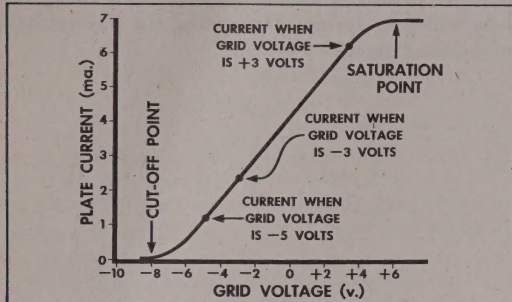
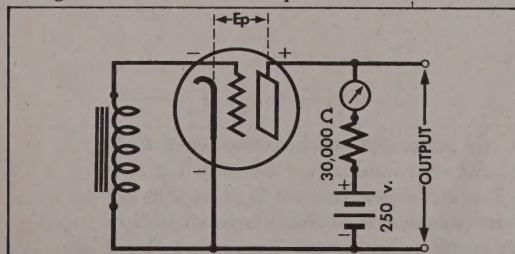
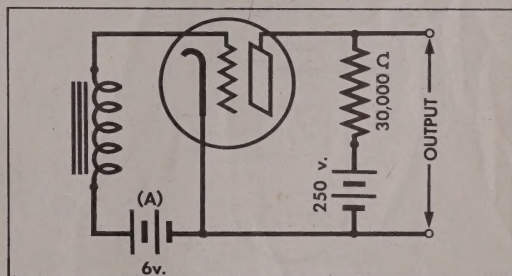

Fig. 401—Relationship Between Grid Voltage and Plate Current
Fig. 402—Triode with Grid Charged by Alternating Current
Fig. 403—Battery (A) Maintains Negative Bias on Grid
Fig. 401 is a characteristic curve showing the relationship between grid voltage and plate current for a typical triode. From this graph, it can be seen
(2) AMPLIFICATION—Fig. 402 shows a triode with its grid charged by alternating current from a transformer. Assuming the voltage applied to the grid by the transformer fluctuates from -3 volts to +3 volts, the resulting pulsating plate current (as indicated by the graph in Fig. 401) will fluctuate between 2.3 and 6.1 milliamperes.
In Fig. 402, there is shown a resistor of 30,000 ohms in series with the tube in the plate circuit. The voltage across this resistor equals the resistance times
Suppose, for example, that a battery (A) is inserted between cathode and grid, as shown in Fig. 403. This will have the effect of applying a steady 6-volt positive potential to the grid with respect to the cathode when the transformer is not operating. As indicated by the graph in Fig. 401, the tube is now operating at the saturation point and current flow through the plate circuit is maximum.